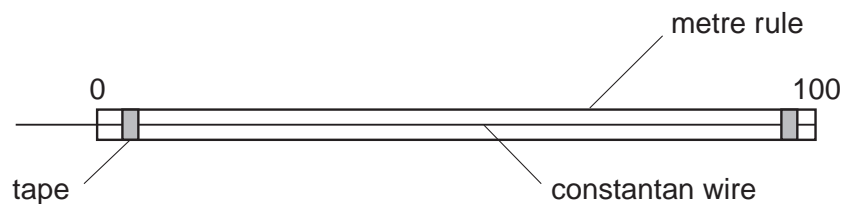

Fig. 1.1
1.05 m length of 36 swg (about 0.19 mm diameter) of bare constantan wire. The wire should be taped along the central part of the rule using two small pieces of Sellotape positioned at the 5 cm and 95 cm marks. A short length of wire of approximately 5 cm should be left protruding from the zero end. The arrangement is shown in Fig. 1.1.